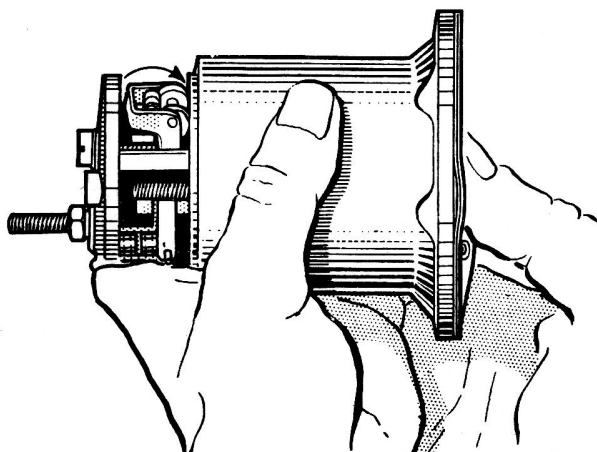

Fig.3.5. Checking 'throw-over' of the toggle mechanism
- 6 Hold the unit horizontally as shown in Fig.3.5. Unscrew the diaphragm one sixth of a turn at a time (one hole), press the diaphragm in and release slowly and firmly (not jerkily) until the "throw-over" mechanism operates. Unscrew a further turn (five to six holes) for the long body HP pump, and unscrew a further 1 1/4 turns (seven holes) for the short body HP and for the AUF pumps.